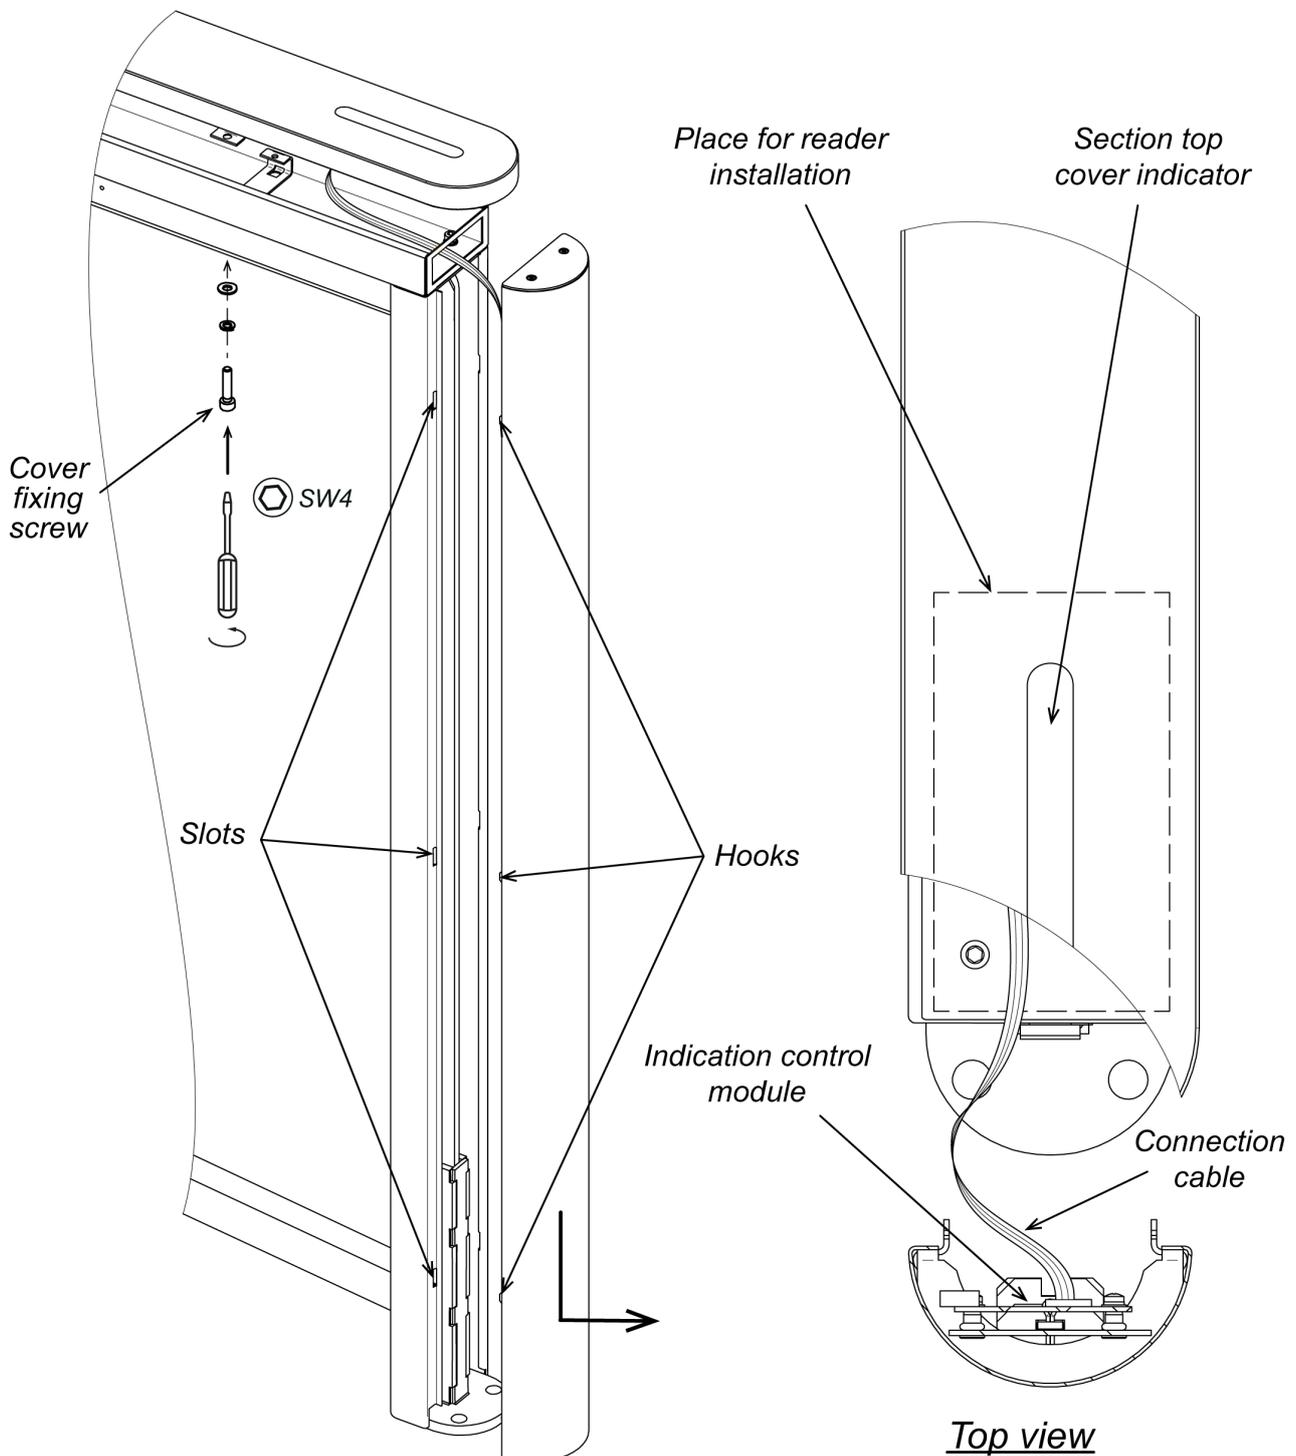

Figure. 20 Side post front panel disassemble
- Dismantle the front panels of both side posts (10) (Fig.20, Sect. 8.9.2).
10. Route cables through the hole located in the base of the *Master* central post: from PS (16), RC-panel (17), Fire Alarm device (18) and from the optional equipment. Route DC (19) and CAN (20) cables from the *Slave* section (side of the section) or a flexible conduit for cabling.
21. If necessary, install the card capture readers in the top duct of the section (fig. 20).
Remove the side post front panel (10), moving it up along the post and then pull it, bringing the hooks from slots in the side post (Fig. 20). Be careful not to damage the connection cable! Disconnect the connection cable output from the front-end indication block.
- Connect the connection cable from the indication control module (“PASS” connector, Fig. 20) to the indication plate